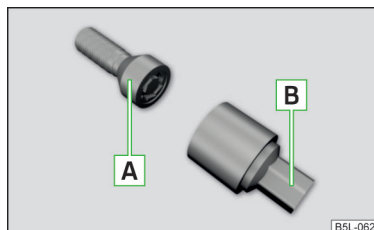

Fig. 262
The anti-theft wheel bolts protect wheels from being stolen. This can only be **loosened/tightened** with attachment **B** » Fig. 262.
- Insert the wheel wrench onto the wheel bolt to the stop. Use the associated attachment for the anti-theft wheel bolts » Fig. 262 on page 224.